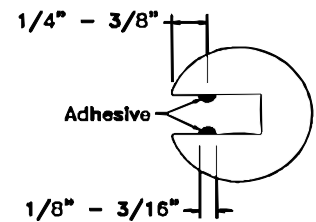

Fig 19
- Step 15: Apply a 1/8" bead of construction adhesive (included) to the opposing faces of the wood handrail mounting groove, see *fig. 19*